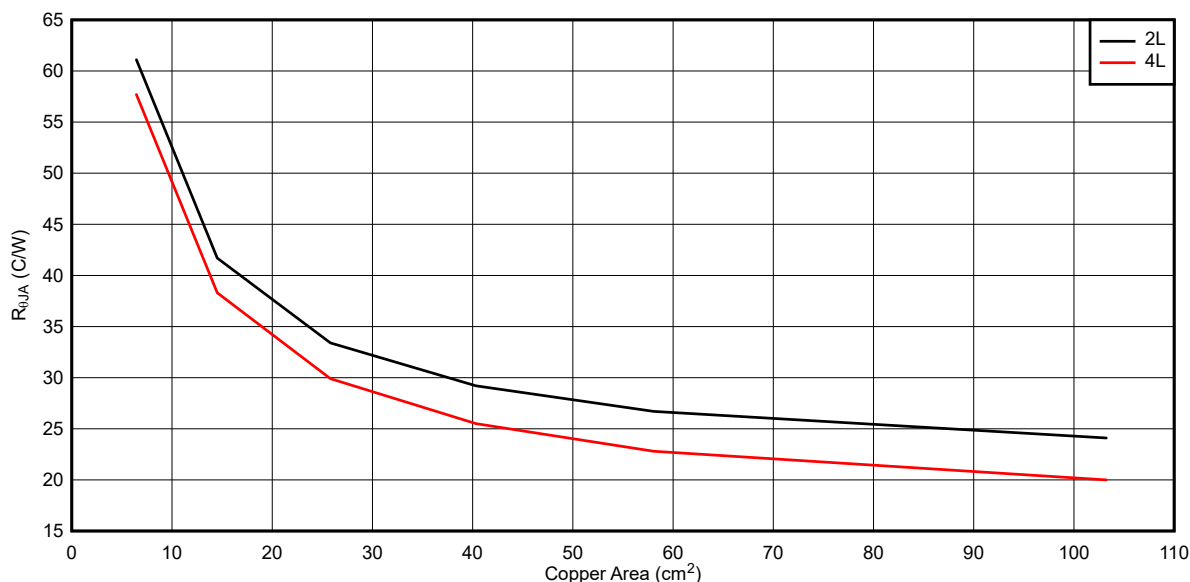

图 10-3. Typical $R_{\theta JA}$ Versus Copper Area
The LM5013-Q1 features a die attach paddle, or "thermal pad" (EP), to provide a place to solder down to the PCB heat-sinking copper. This provides a good heat conduction path from the regulator junction to the heat sink and must be properly soldered to the PCB heat sink copper. Typical examples of $R_{\theta JA}$ can be found in Figure 10-3. The copper area given in the graph is for each layer. The top and bottom layers are 2-oz copper each, while the inner layers are 1 oz. Remember that the data given in this graph is for illustration purposes only, and the actual performance in any given application depends on all of the previously mentioned factors.
the user can calculate the required $R_{\theta JA}$ of about 30°C/W. Based on Figure 10-3, the required copper area is about 40 cm² for a two-layer PCB.